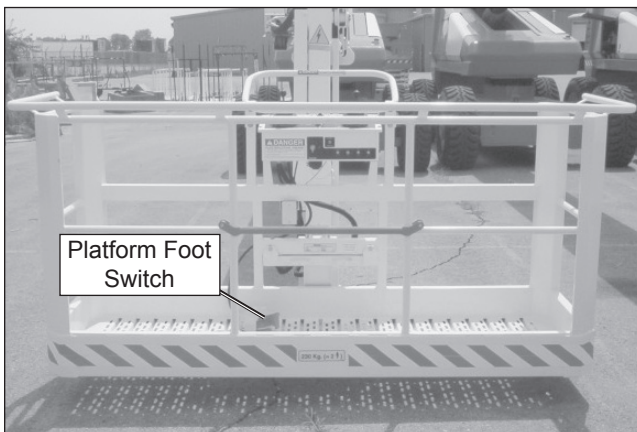

Figure 8.6 – Platform
2. Step down on the platform foot switch (refer to Figure 8.6). This switch must be held down to operate the upper controls.